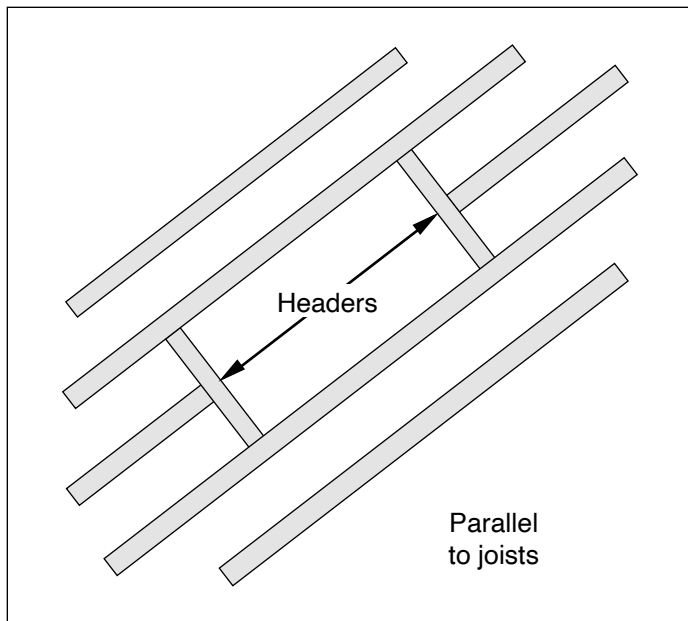
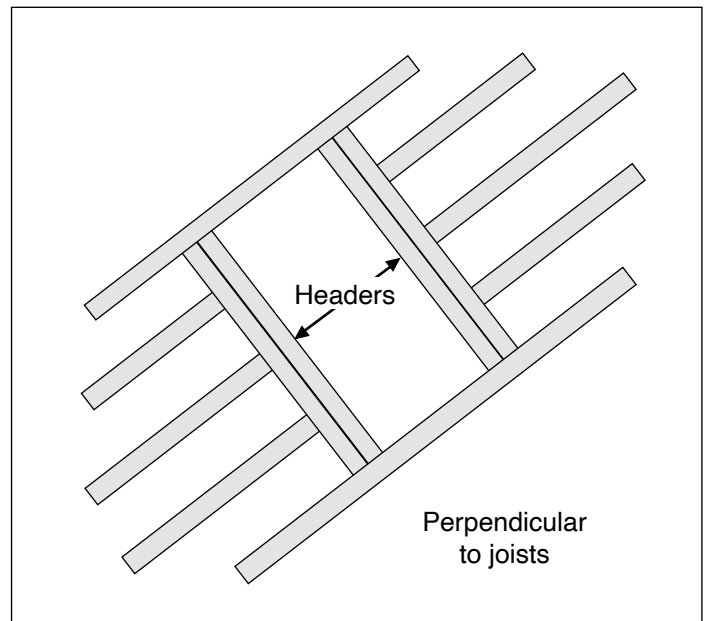

Figure 3
Figure 4
- * Cut and securely nail headers (blocking) of the same joist dimensions to the joists as shown in Figures 3 and 4. Be sure to nail all cut joists to headers. When installing perpendicular to joists as in Figure 4, it is advisable to double up the headers for more strength and rigidity.